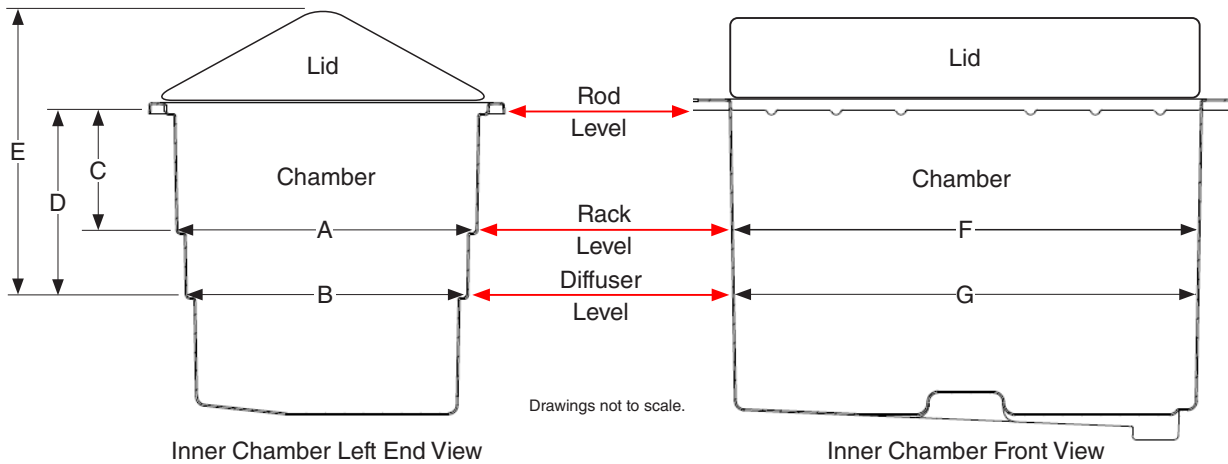
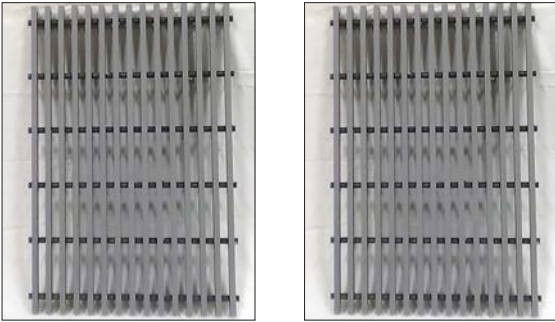

Figure 10.1a: Chamber internal dimensions.
Figure 10.2.4a: Rack level mounting grates.
- Q-FOG test chamber internal dimensions listed in the table below correspond with dimensions shown in Figure 10.1a.
1. Rack level grates (Figure 10.2.4a through Figure 10.2.4c) mount at the same height as the panel racks (see Figure 10.1a). Use the rack level grates if possible.
2. Diffuser level grates (Figure 10.2.4d through Figure 10.2f) mount at the same height as the diffuser panels (see Figure 10.1a). Use the diffuser level grates if parts are too tall for the rack level grates.